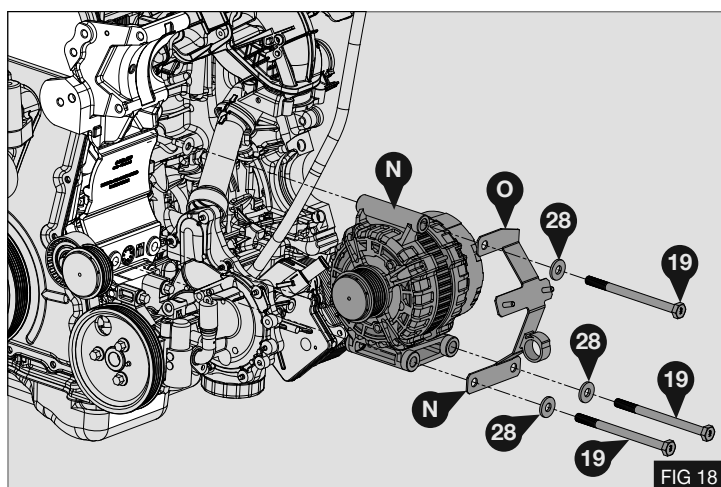

FIG 18
- Fit the alternator (N) with modified hose support (O) using 3x M10x140 bolts (19) with washers (28) - Fig 18